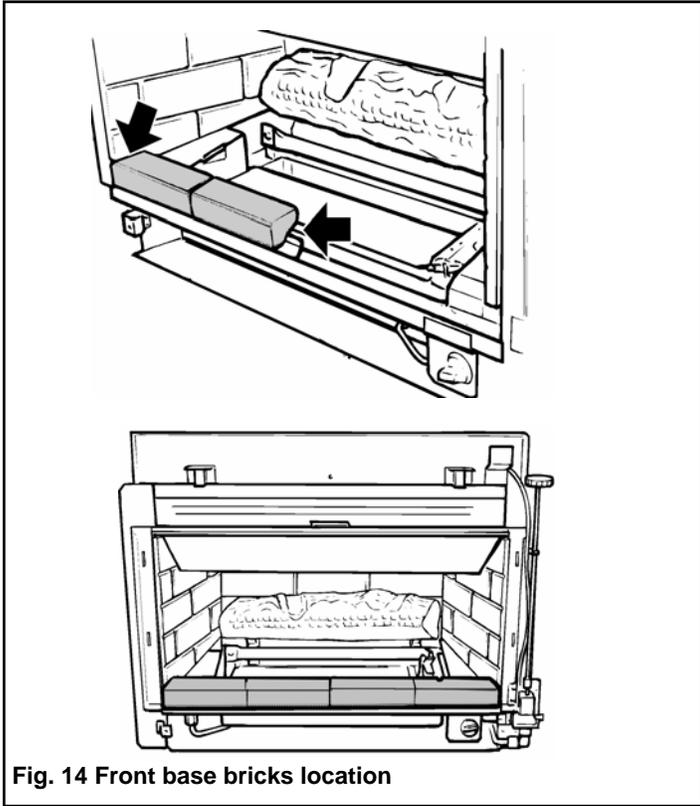

Fig. 14 Front base bricks location
5.4.4 Install the front base bricks. (The right hand brick has a small notch). Place the bricks on the firebox front ledge with the front face of the bricks behind the lip at front of the ledge. Their inner ends should rest on the center angled support and their outside ends should be under the cut-outs at the front of the side walls (fig. 14).